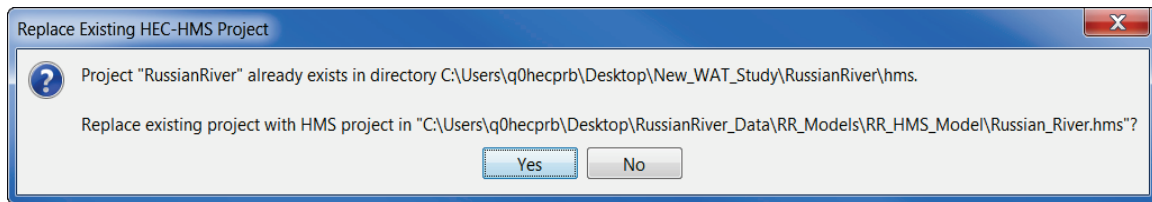

**Figure 8.6** HEC-WAT Schematic Map Window after HEC-ResSim Import
6. The imported stream alignment, common computation points, reservoirs, and any available map layers from the HEC-ResSim model display in the HEC-WAT **Schematic Map Window** (Figure 8.6). For all of the map layers to appear, close the **Schematic Map Window**. To re-open the **Schematic Map Window**, from the **Study Tree**, from an **Alternative** folder (i.e., *Without Project Conditions*), double-click on a schematic (i.e., *Schematic:Without Project Conditions*), the **Schematic Map Window** will appear in the **Desktop Area** of the HEC-WAT main window (Figure 8.6). The importing of an HEC-ResSim model has completed.